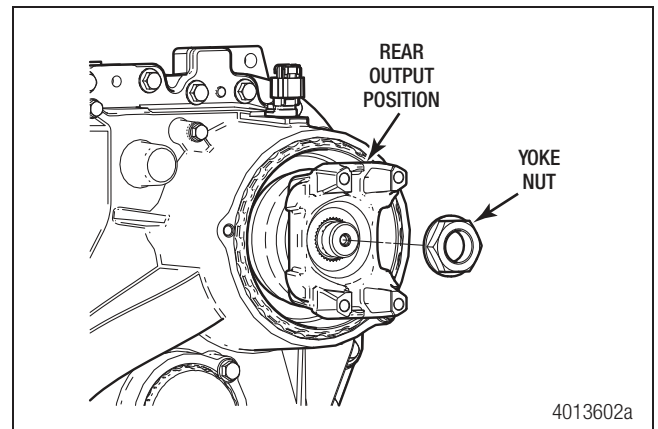

Figure 7.48
8. Apply sealant to the new yoke nut and install it on the input shaft. Tighten the yoke nut to 500-700 lb-ft (678-949 N-m). Figure 7.48.